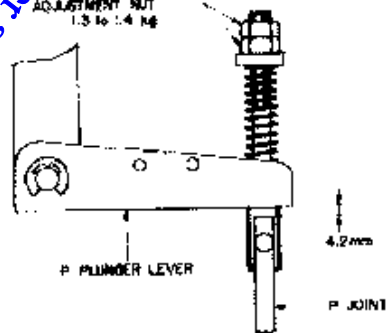

Fig. 2
- 2) Insert a 4.7 mm (No. 14) U type washer steel between the P Pinch Lever and P Joint (Refer to Fig. 2).
## 3. PINCH WHEEL PRESSURE ADJUSTMENT (Refer to Fig. 2)